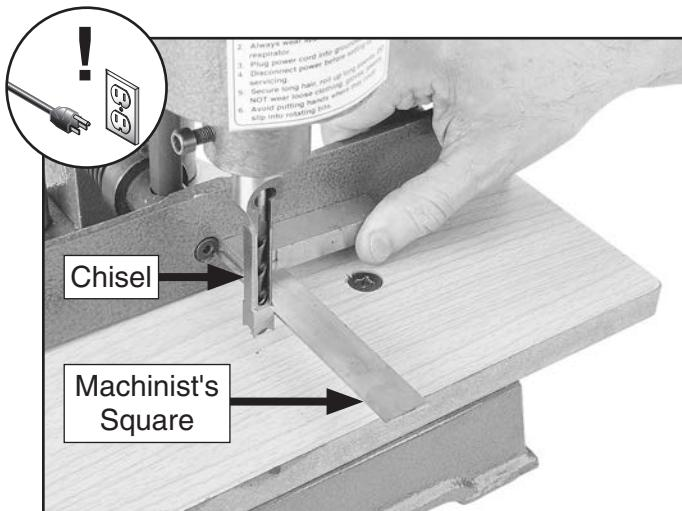

Figure 21. Ensuring chisel is square to fence.
11. Place a square against fence and chisel (see **Figure 21**) to verify that chisel is square to fence.